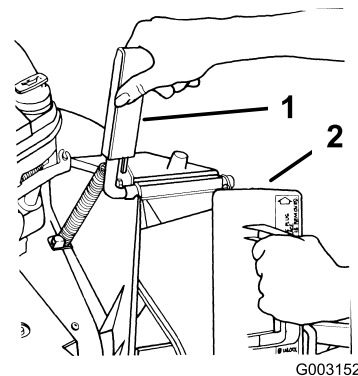

Figure 6
- Open the discharge door by pulling forward on the handle and moving it rearward (Figure 6). Hold the discharge door handle to prevent the spring-loaded door from closing while you insert the plug.
- Since the plug is slightly wider than the discharge tunnel opening, rotate the plug clockwise slightly while inserting it (Figure 6).